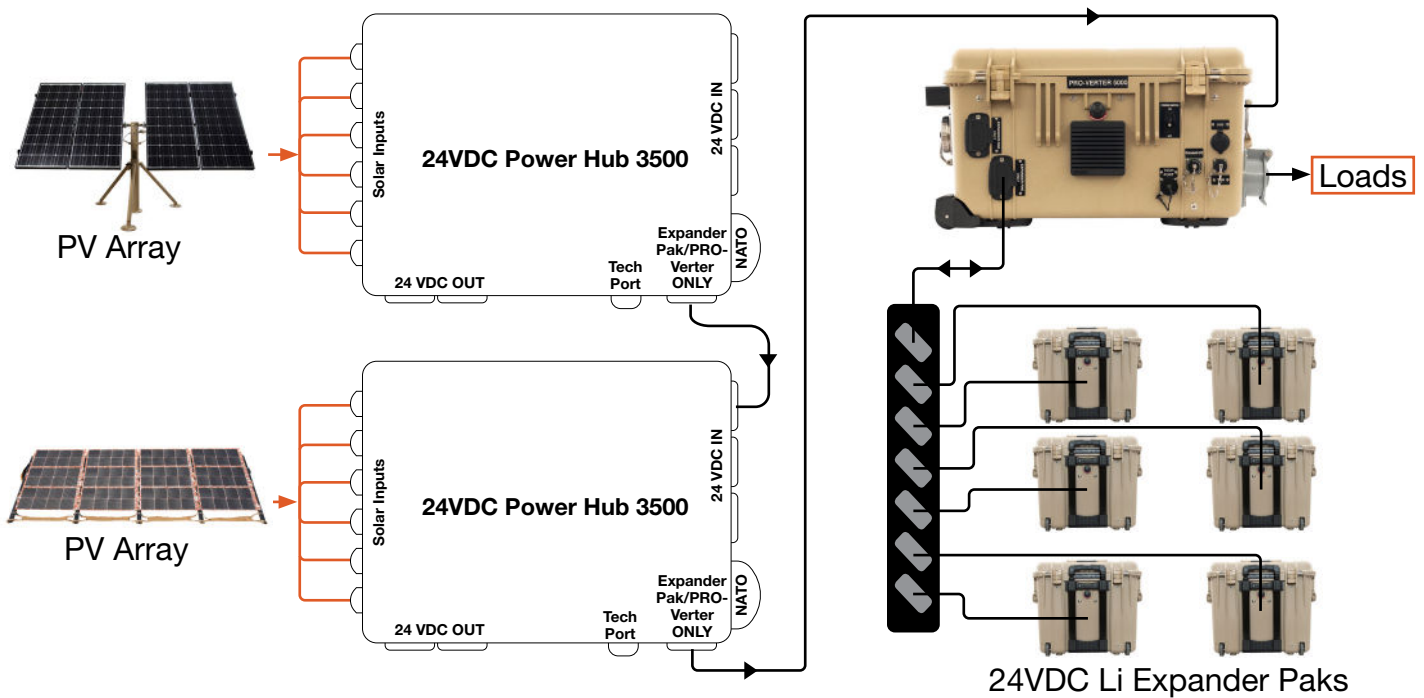

Figure 23. Stacking Power Hubs
All Solar Stik Systems are scalable, and the method used for scaling Power Management components is “Stacking”. Multiple Power Hubs can be stacked when conditions warrant. Stacking can be used when a greater contribution from PV is desired, and the PV rating exceeds the ability of a single Power Hub to regulate. (Figure 23)
The combined maximum **potential** power output from two (2) Power Hub 3500s is 7000 W in a stacked configuration. At 24 VDC, that equals 208 A of current, which roughly equals the 200 A max capacity of the Inter-Connect Cable. A maximum of six (6) 400 W PV arrays (~2500 W) may be connected to each of the two (2) Power Hubs to remain within the rated current capacity of a single Inter-Connect Cable in the configuration shown in Figure 23. Higher power configurations are possible with additional Inter-Connect cables and Strips.